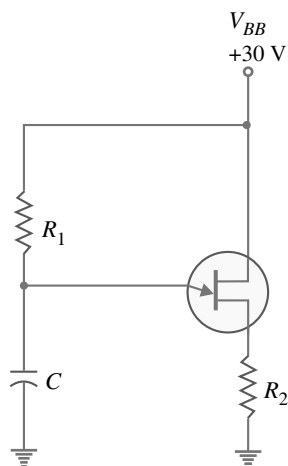

Fig. 19.39
10. In the relaxation oscillator of Fig. 19.39, determine the value of  $R_1$  that will ensure proper turn-on and turn-off of the *UJT*. The characteristic of the *UJT* shows the following values :  $\eta = 0.33$  ;  $V_V = 0.8$  V ;  $I_V = 15$  mA ;  $I_P = 35$   $\mu$ A and  $V_P = 18$  V. [343 k $\Omega$  >  $R_1$  > 1.95 k $\Omega$ ]